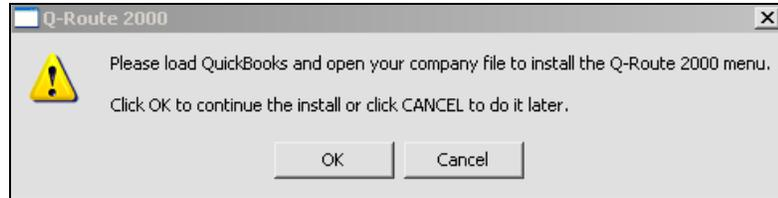

Figure 2.07
NOTE: Depending on the speed of your system, *Figure 2.07* above may popup prior to *Figure 2.06*.
2. Click **OK** to the message displayed in **Figure 2.07**.